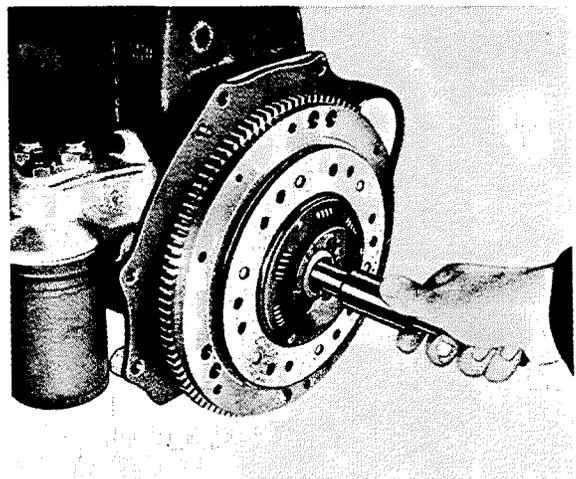

Fig. Ku 1/4
**Note:** To rule out any excessive one-sided loading, which might result in the end plate being deformed, the clutch must be removed in compressed condition only. To compress the clutch, place the compression yokes 136 589 23 61 under the outer ends of the throwout levers (see Fig. Ku 1/5) in the same way as for installing the clutch.
4. When installing the clutch again, center clutch plate on flywheel by means of centering arbor 136 589 00 61 or an old driveshaft (Fig. Ku 1/4). Be careful to install the clutch plate correctly! The side marked "Kupplungsseite" (Clutch side) must face the transmission (see also Fig. Ku 4/00).